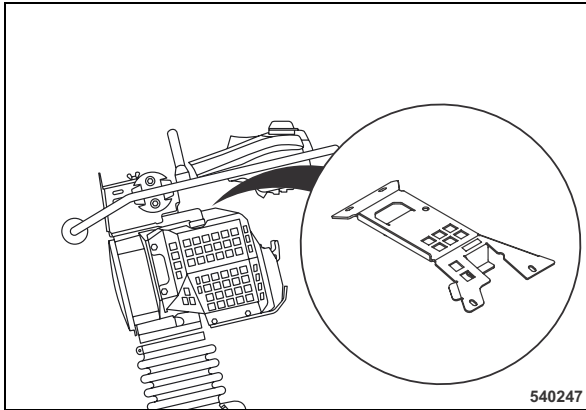

Fig. 51
- Reassemble the top engine cover (Fig. 51).